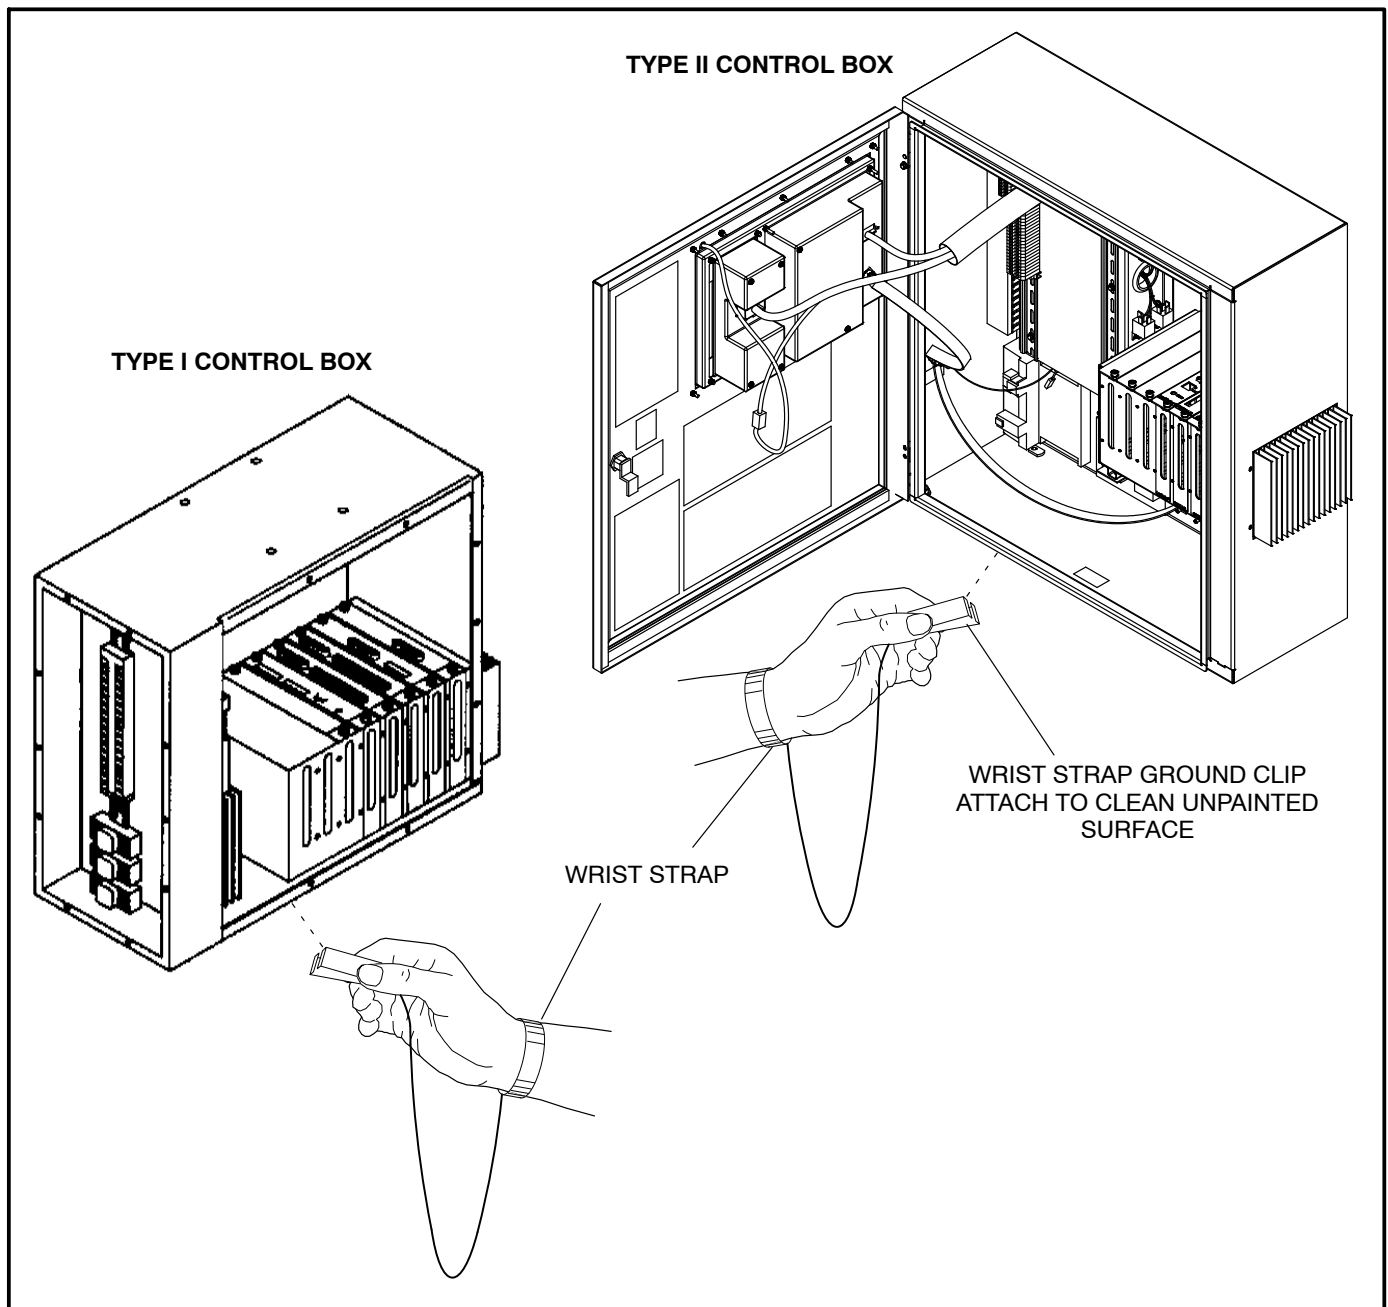

FIGURE 9-2. WRIST STRAP CONNECTION
NOTE: In addition to the Type II control shown in Figure 9-2, which includes the operator panel assembly installed in the door, some Type II controls include operator panel piece parts installed in the door.
Attach the clip to a clean unpainted surface of the control box (see Figure 9-2) and place the strap around your wrist before handling a circuit board.
7. Connect the wrist strap ground clip as shown in Figure 9-2.
15. Connect the wrist strap ground clip as shown in Figure 9-2.